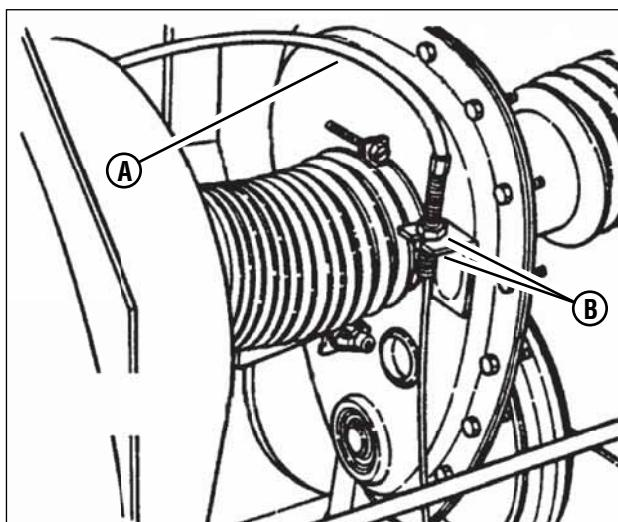

Figure 40: Brake cable adjusting nuts
5. If the measurement is not 3/4", loosen the two jam-nuts (**A**, Figure 40). Hold the clutch/brake cable (**B**) to the chain case bracket.
6. Adjust the cable up or down using the jam-nuts to obtain a distance of 3/4" between the end of the clutch/brake cable (adjustment shown in inset of Figure 40) and the bottom of the housing.